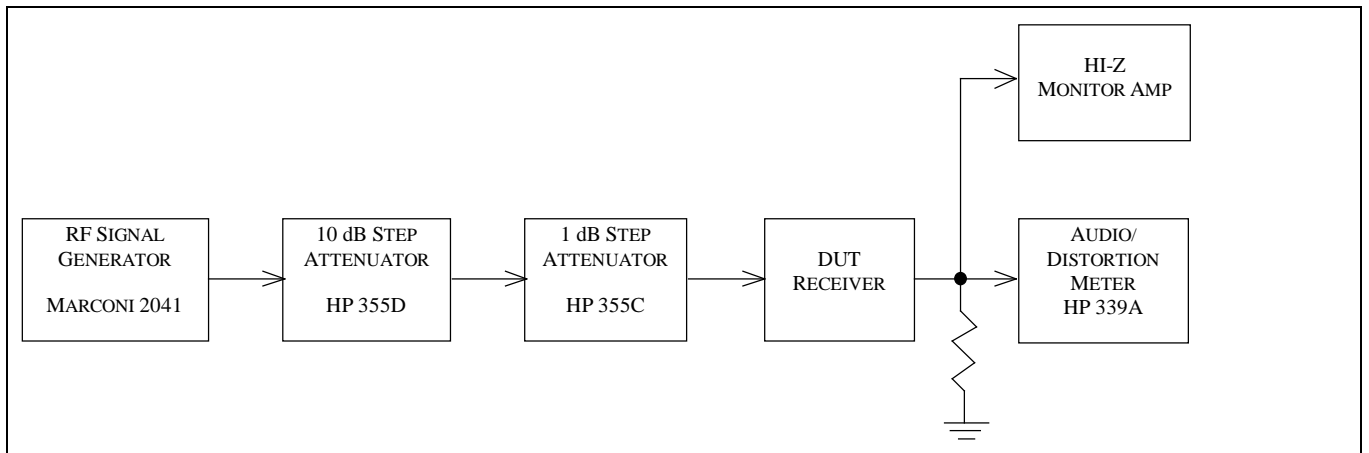

Fig. 5-5 — IF and Image Test Hook-up
5.5.2 Test hook-up (See Fig. 5-5)